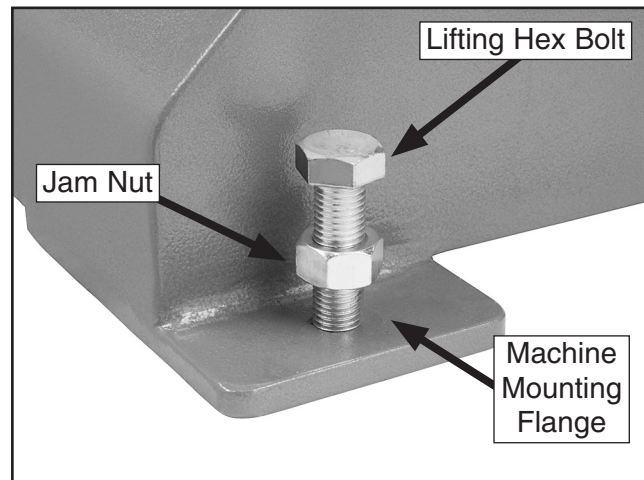

Figure 6. Lifting hex bolts and jam nuts.
3. Use a 24mm wrench to thread the four special 5/8-11 x 2³/₈" hex bolts into the machine mounting flanges (see **Figure 6**).